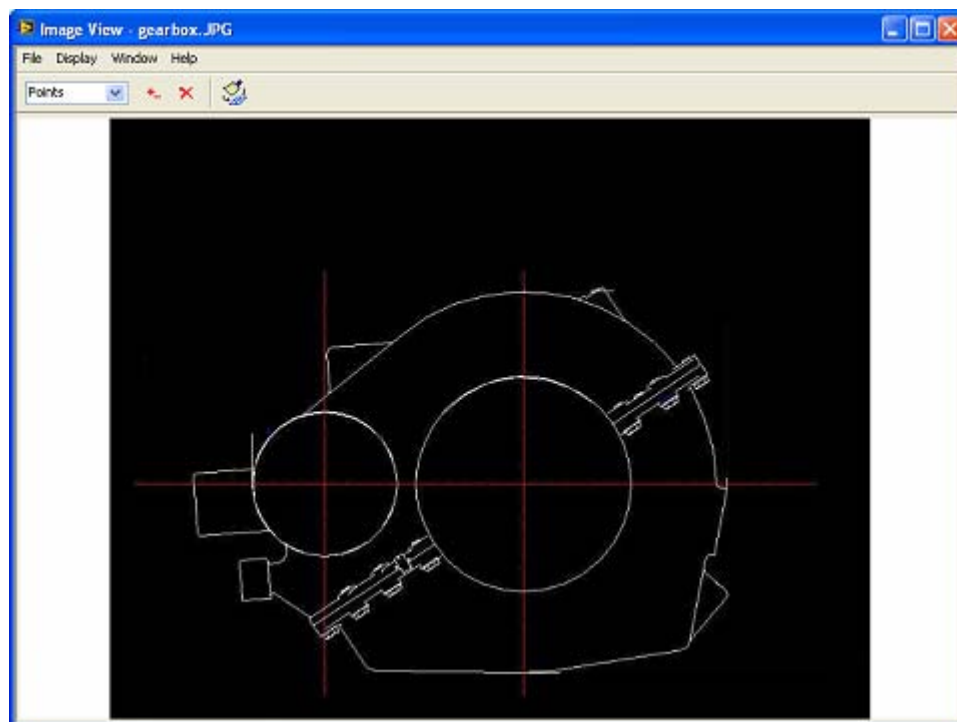

Figure 2-8 Design drawing of gearbox
- In image view window, execute menu item **File | Load...** to load gearbox design drawing, as Figure 2-8 shows.